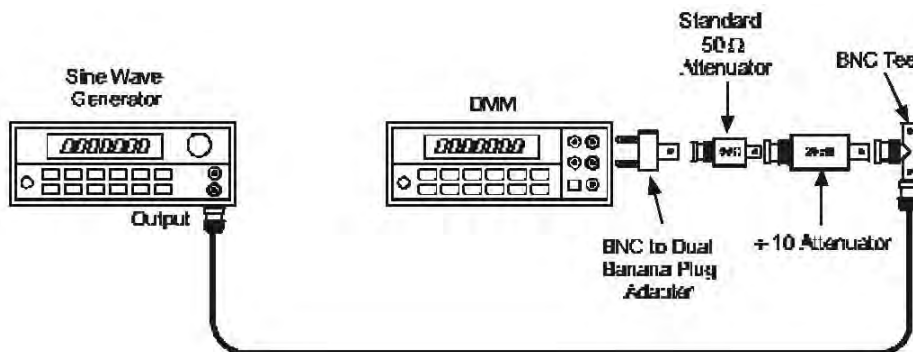

Figure 11, X10 Gain Accuracy Test Setup 2.
9. Connect the 50 Ω termination end of the termination/attenuator/ BNC Tee combination on the sine wave generator cable to the Banana Plug adapter on the DMM. See Figure 11.